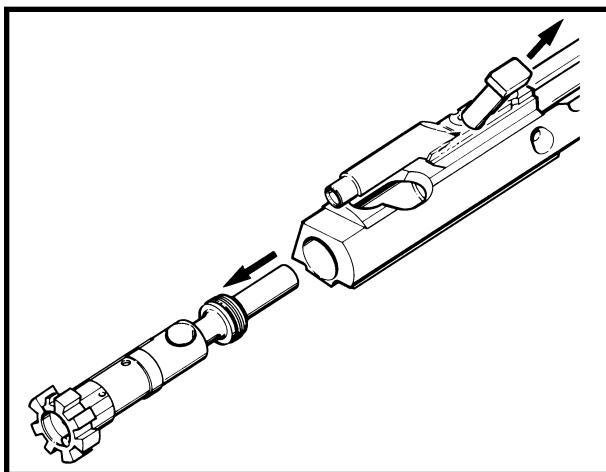

Figure 3-2-30 Removing the Bolt
- e. Withdraw the cam pin from the bolt carrier group and pull the bolt out of the bolt carrier. See Figure 3-2-30.